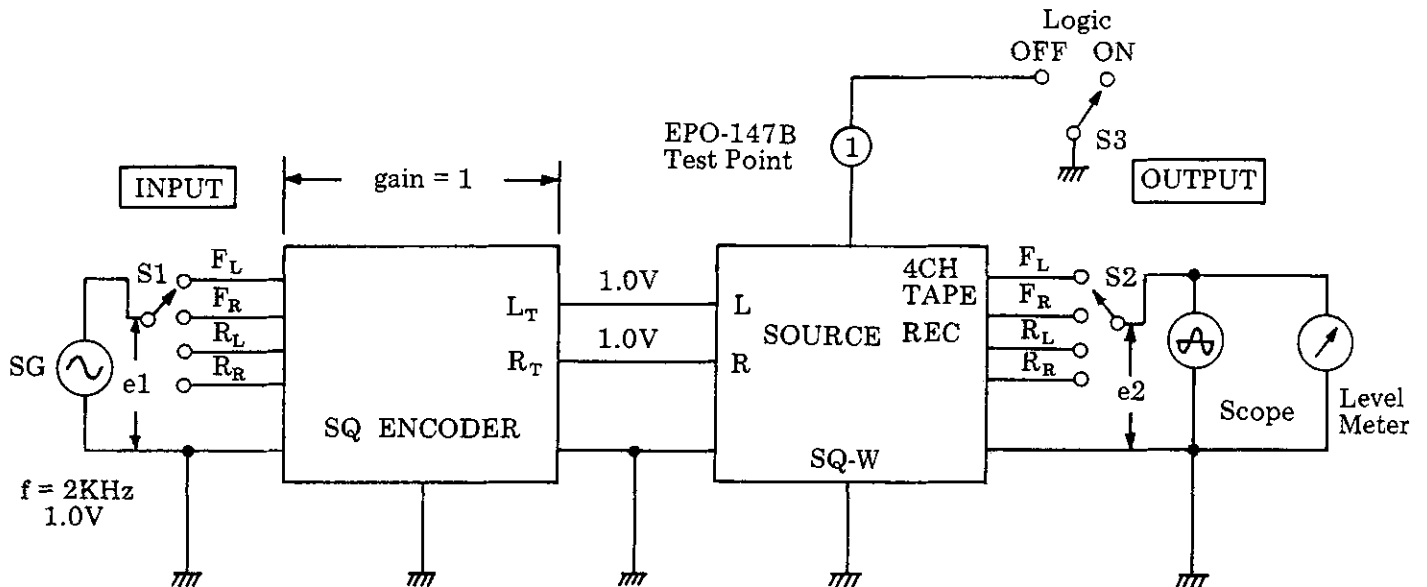

Figure 1. SQ-W Test Set-up
1. Use the test set-up shown in Figure 1.
In the test set-up of figure 1, set the logic switch S3 in the ON position.